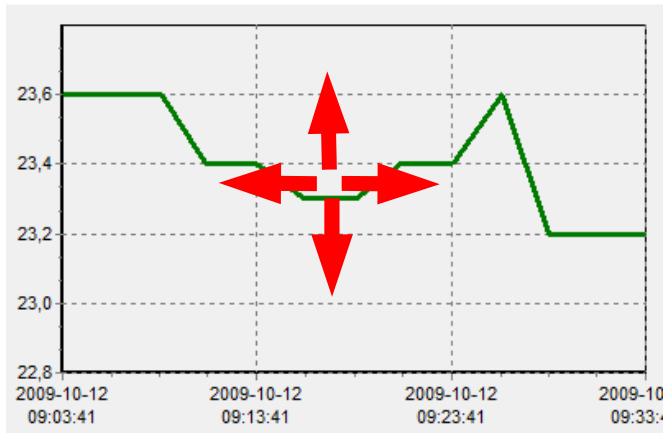

Figure 3.14. Moving the graph
- moving the graph** - the graph can be moved to the left/right (earlier/later time period, correspondingly) or to the down/up (lower/higher measurements range, correspondingly) . In order to do this, right-click on the graph and drag the pointer in desired direction (Figure 3.14).